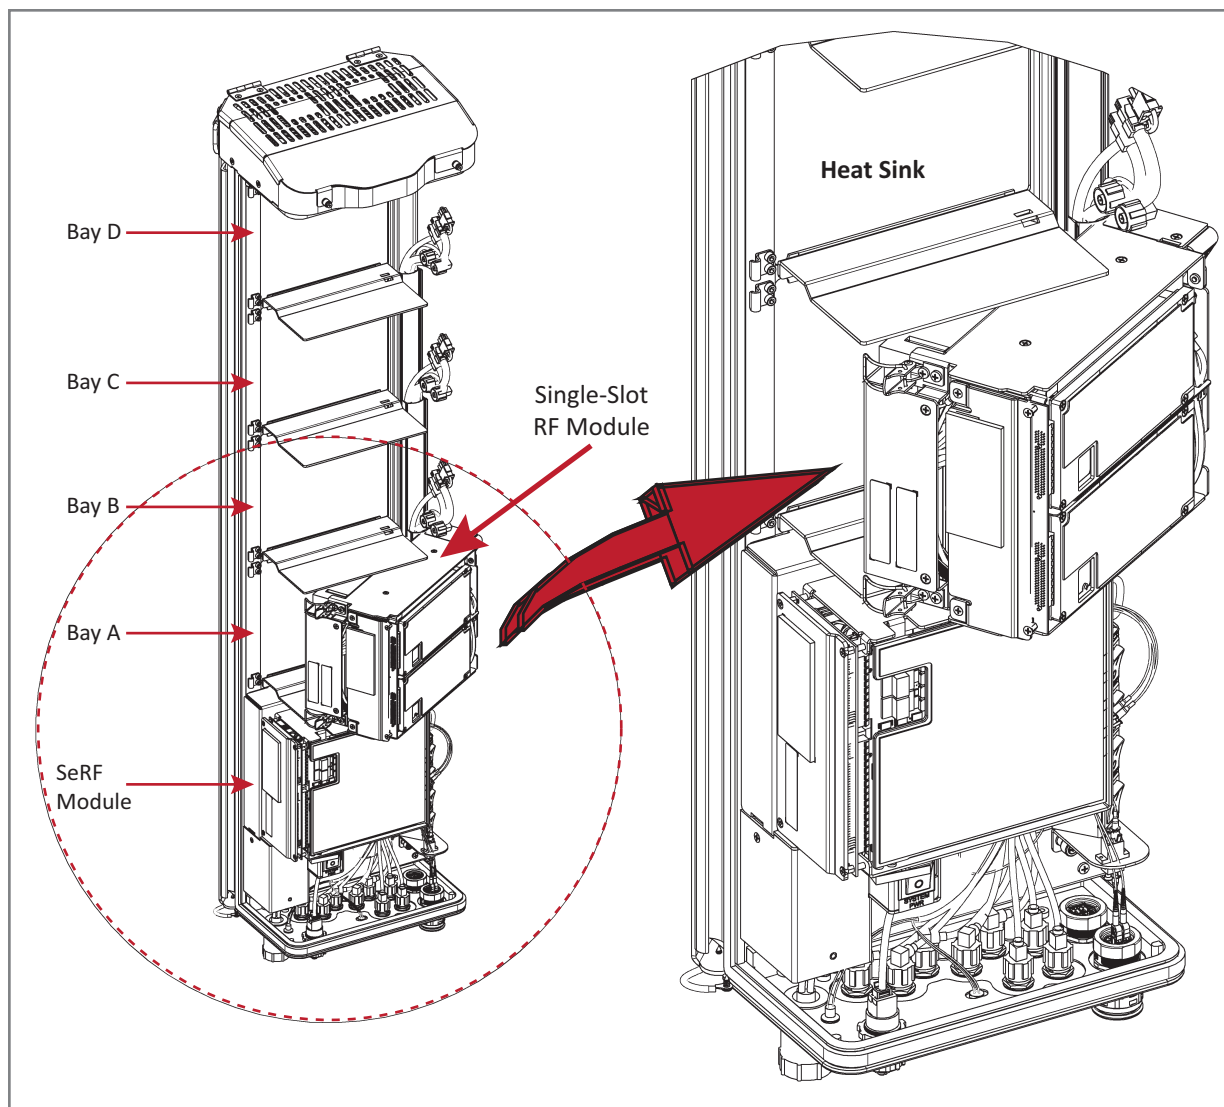

Figure 21. Installing a Single-Bay RF Module
- Single-Bay RF Module: Figure 21 on page 90